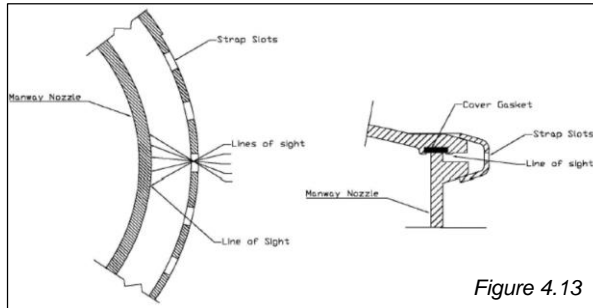

Figure 4.13
4. Examination of the test area can be made visually, by looking through the strap slots and scanning the test area for any indication of leakage. (Figure 4.13)